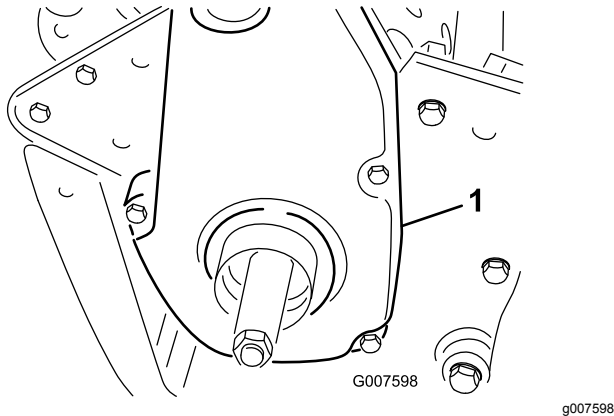

Figure 50
6. Remove the rear belt cover from the right side of the machine (Figure 50).